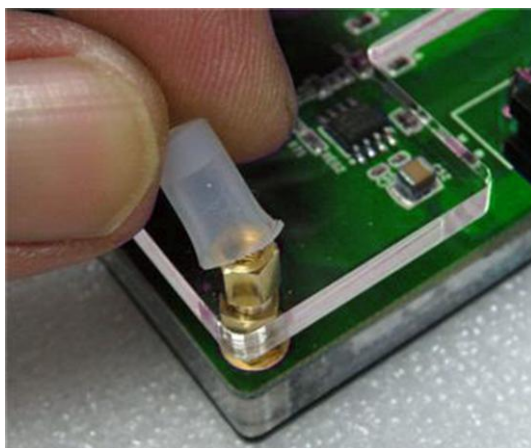

Figure 1-5 MTL2 Footstand Setup
2. Place four silicon footstands to foot pegs of the MTL2 as shown in **Figure 1-5**.